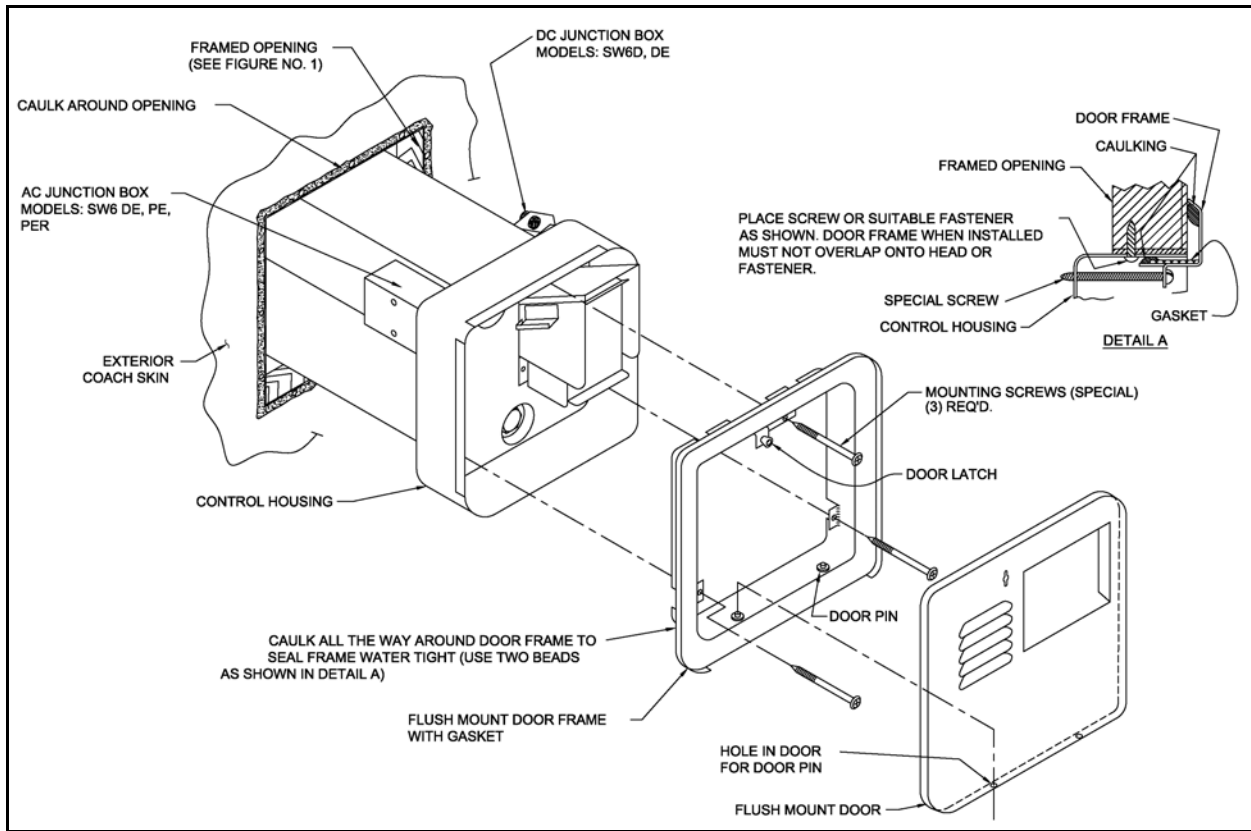

Figure 2
### INSTALLATION USING FLUSH MOUNT FRAME & DOOR (See Figure 2 for Illustration)
- B. Refer to Figure 2 for location of D.C. junction box on models SW6D and SW6DE. Refer to Figure 5 and 6 for location of D.C. junction box on models SW6DM and SW6DEM.
- B. Refer to Figure 2 for location of A.C. junction box on model SW6DE. Refer to Figure 6 for A.C. junction box on model SW6DEM.